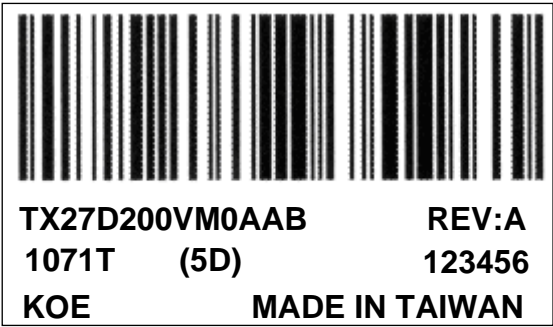

Fig. 13.2
3) The location of the lot mark is on the back of the display shown in Fig. 13.2